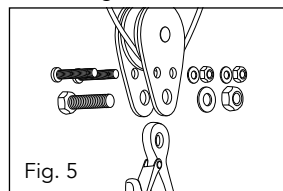

Fig. 5
3. Using the supplied screws, nuts and washers, assemble the return roller (15) and additional hook (16) over the loop in the cable (16), as shown in Fig. 5.